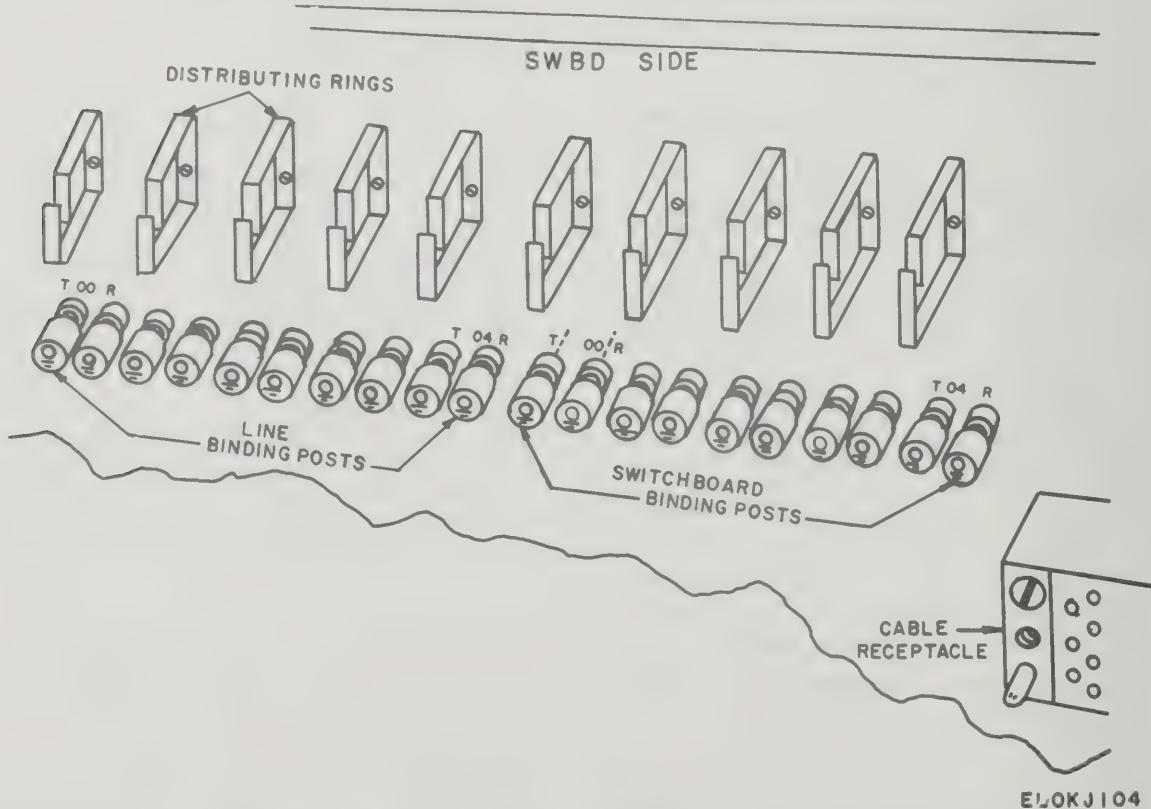

Figure 2-4. Main Distribution Frame, Telephone TA-454/GTA-14(V), cross-connection binding posts.
(1) Press the binding posts to open the wire slots. Place the jumper wires in the appropriate slots and release the binding posts. Jumper wires are interconnected from LINE binding posts to SWITCHBOARD binding posts (fig. 2-4). Be sure that the T(tip) jumper wire on the LINE binding post is connected to the T(tip) on the SWITCHBOARD binding post.